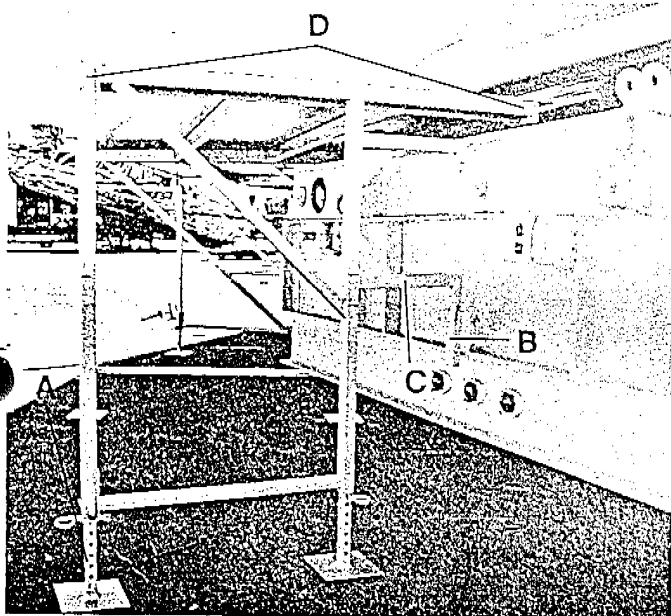

Fig. 17
- (2) Install jack stands to the legs of the large walkway support frame section. Run a snap key in a hole in each jack stand leg. Allow the support frame legs to rest on the keys (a). (Refer to Fig. 17)
- (3) Slip the pins on the walkway floor section in the sockets in the walkway support frame.
the two fastening bars on the back walkway support frame (c) over the two attachment bars on the trailer. (Fig. 17)
(4) NOTE: Adjust the position of the walkway platform so the last walkway floor section fits with the center back. It may be necessary to push and pull the framework of the entire semicircle to make the adjustment.
(5) Install the pins on the center back walkway floor section in the sockets on the trailer frame and the walkway support frame (d). (Refer to Fig. 17)
(6) Level the center back walkway floor section.